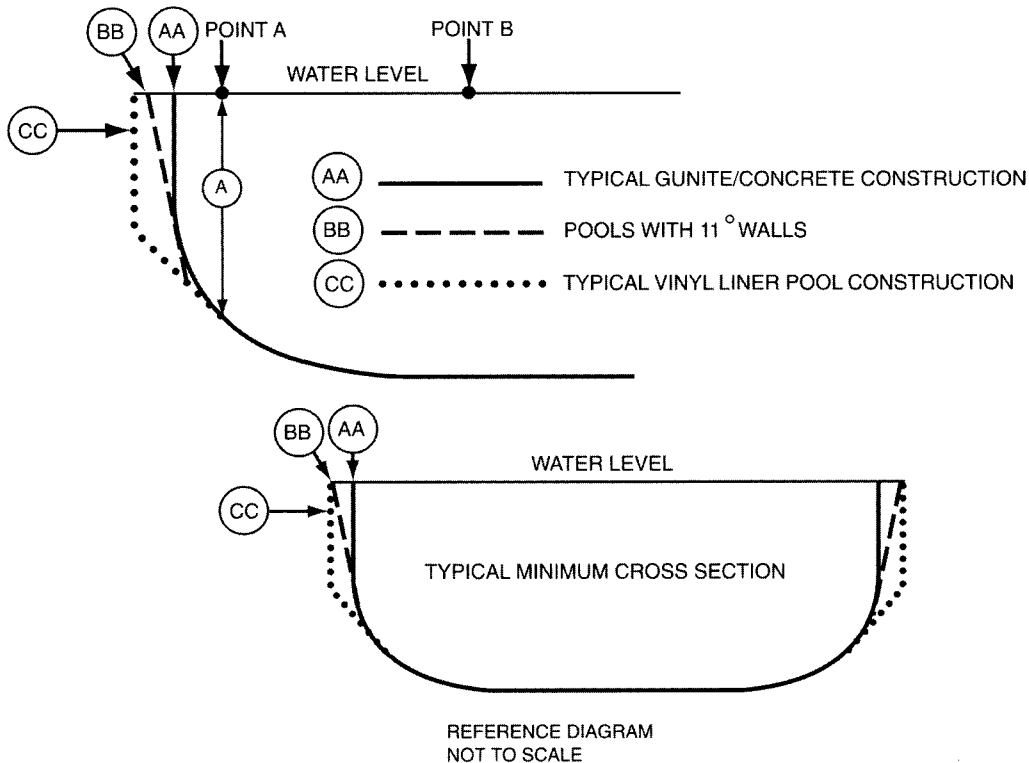

Figure 2 – Typical pool design configurations
5.3.2 As shown in figure 2, at the depths of (a) and (b), the walls are permitted to join the floor.
5.9.4 Typical pool design configurations. Vinyl liner, shotcrete, fiberglass and concrete constructions shall conform to, but are not limited to, the typical pool configurations shown in figure 2.